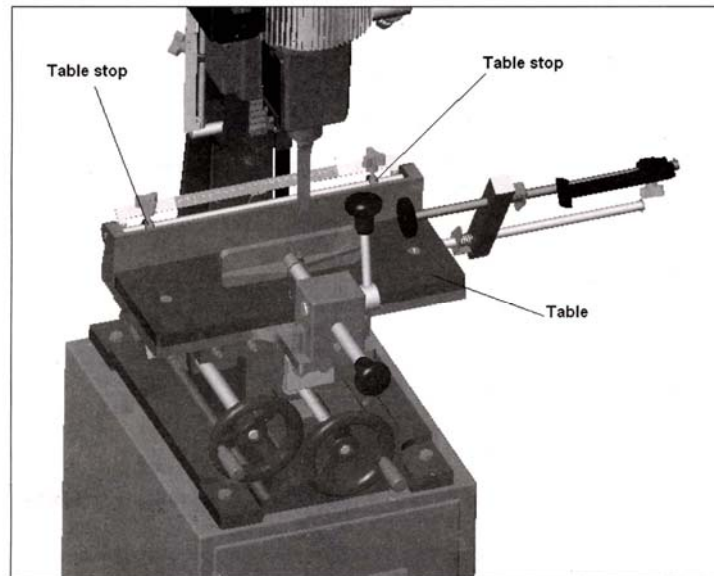

FIGURE 5
3. Adjust the table stops, see Figure 5. According to the length of the cut required, then tighten the thumb screw